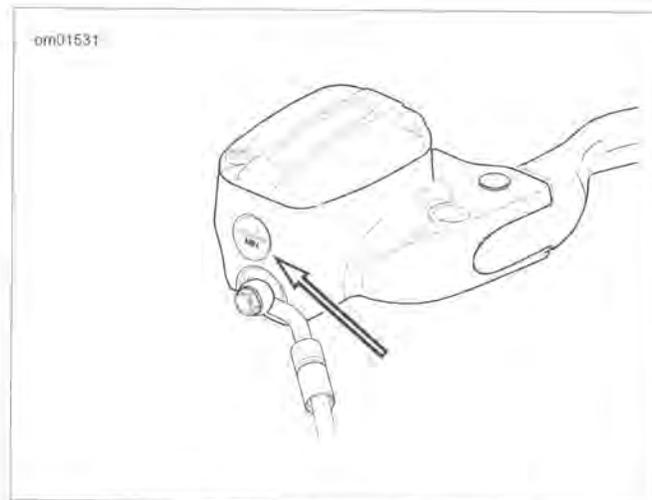

Figure 1-21. Clutch Reservoir Sight Glass
2. See Figure 1-21. Verify fluid presence in reservoir sight glass (3). Sight glass appears dark if fluid is present.